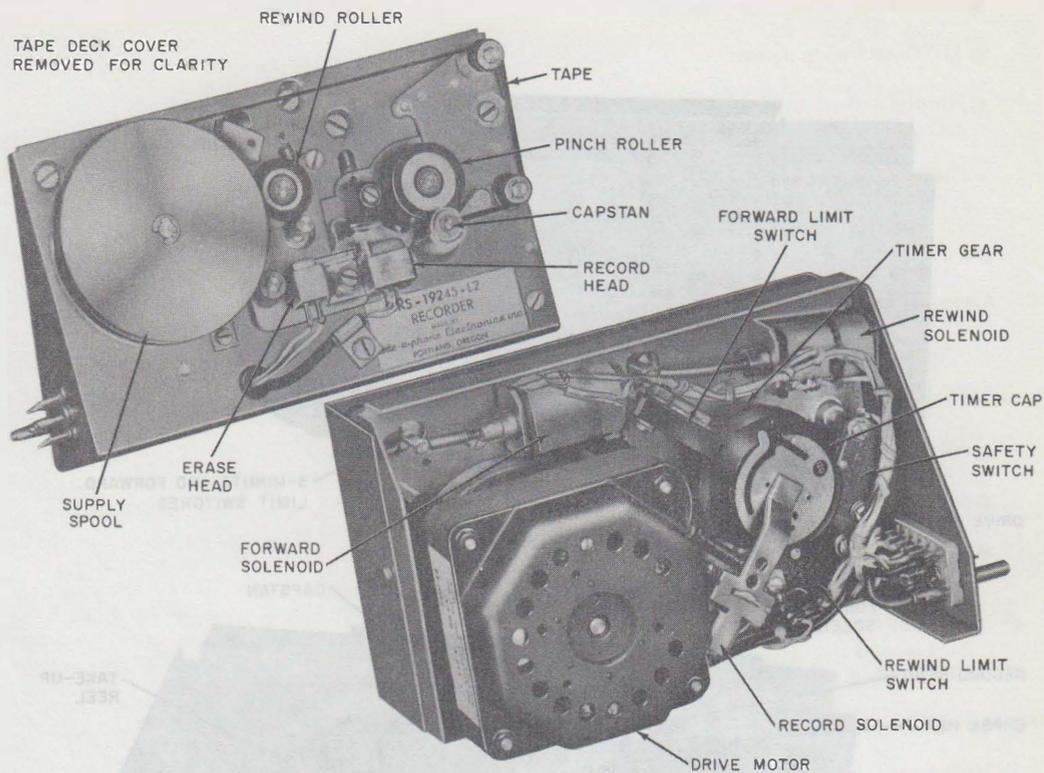

Fig. 8—KS-19245, List 2 Recorder Front and Rear Views
15.02 Refer to Fig. 8 and 9 for reference with operational procedure.